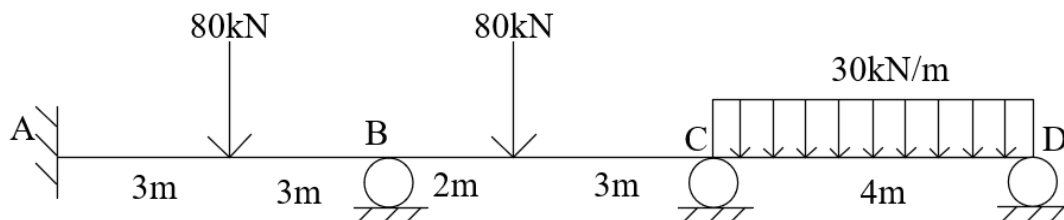

Fig. 1
- 1 a) Derive the equation for Clapeyron's three moment theorem considering unequal settlement of supports, different span lengths and different moment of inertia for adjacent spans. (10)
- b) Brief the sway analysis procedure for analysis of portal frames using slope deflection method. (5)
- 2 The ends A and C of a two-span continuous beam ABC are fixed and B is provided with roller support. Span AB is 4m long and carries a UDL of 15kN/m. BC has a span of 2m and carries a concentrated load of 80kN at 1.5m from the fixed end C. Analyse the beam ABC by the theorem of three moments and plot the BMD and SFD. Assume EI constant. (15)
- 3 a) Set up the slope deflection equations for a beam considering support settlement. (3)
- b) Using the slope deflection method, determine the moments at supports for the beam shown in Fig. 1 if the support B sinks by 10mm. Given $I=1.32 \times 10^8 \text{ mm}^4$ and $E=2 \times 10^5 \text{ N/mm}^2$. (12)